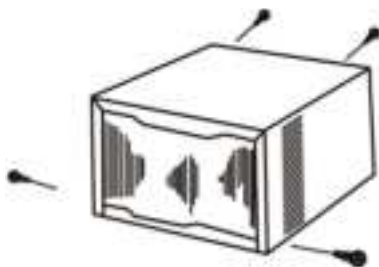

Figure 4
2. Remove the screws in the chassis-fixing board and cabinet. Some models have two more screws on the back of the cabinet. (Figure. 4)